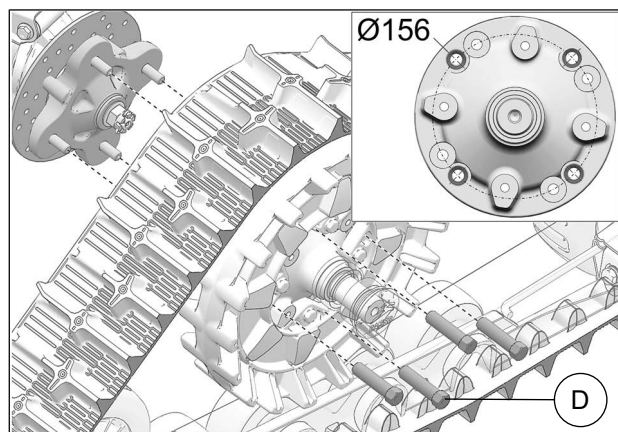

Fig. 17
8. Secure undercarriage to front hub using provided M12 lug nuts (**D**). Use bolt circle $\varnothing 156\text{mm}$. See Fig. 17